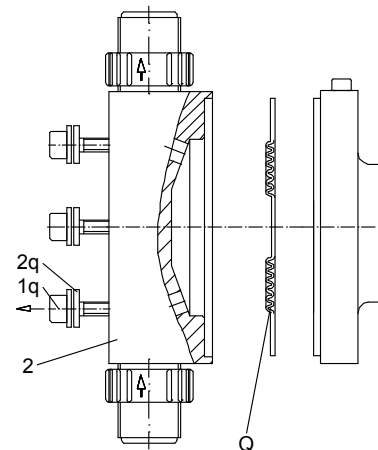

Fig. 38 Replacing a single diaphragm
- Remove the dosing head (2).
- Remove the diaphragm and fit a new diaphragm (Q) on the suction side. See fig. 38.